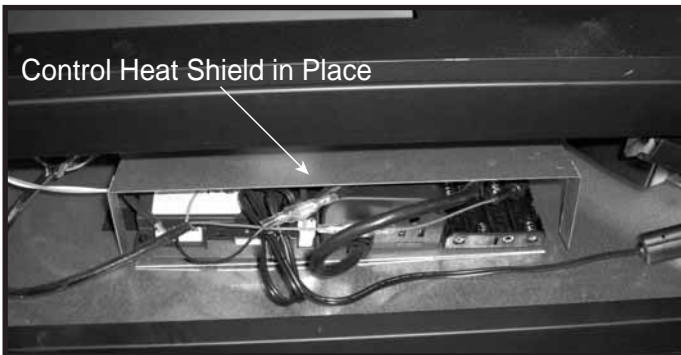

Figure 15.19 Control Heat Shield - Installed
- Place over control plate so that all of the control plate is covered and legs are on bottom pan of appliance. See Figure 15.19.